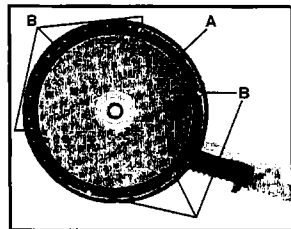

Fig. 5
On the **Model 7800**, a brush-type skirt (A) Fig. 5, surrounds the abrasive pad. This skirt serves two purposes: (1) It extends below the surface of the abrasive pad so that it contacts the work surface first, preventing the abrasive from "gouging" the work. (2) It helps contain the drywall dust until the vacuum cleaner pulls it away.
- (1) Remove abrasive pad (see ABRASIVE PAD REPLACEMENT).
- (2) Use phillips screwdriver to remove the six retaining screws (B) Fig. 5.
- (3) Lift the skirt out of housing.
- (4) Position new skirt to housing and install the six retaining screws. (5) Replace the abrasive pad.